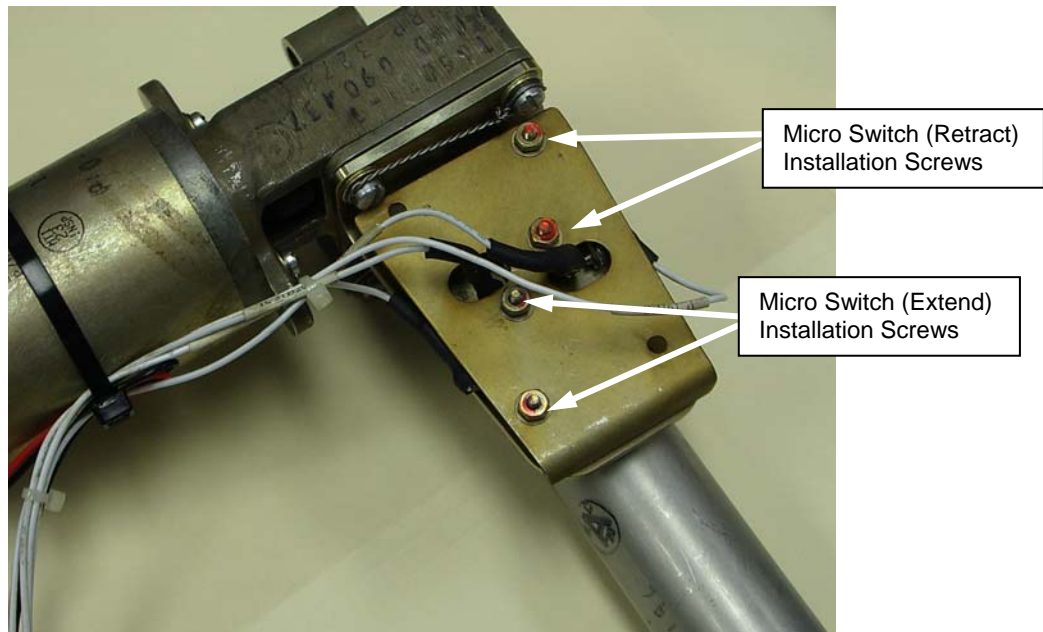

Figure 4: Trim Actuator Assembly (Lateral Trim Actuator Retracted)
1. To adjust the spring housing travel, loosen the switch mounting hardware to set the switch position(s) as necessary to bring the spring housing travel within limits. For example, to shorten the spring housing extension, loosen the switch mounting hardware for the extending switch and adjust the switch position inward (Figure 4).